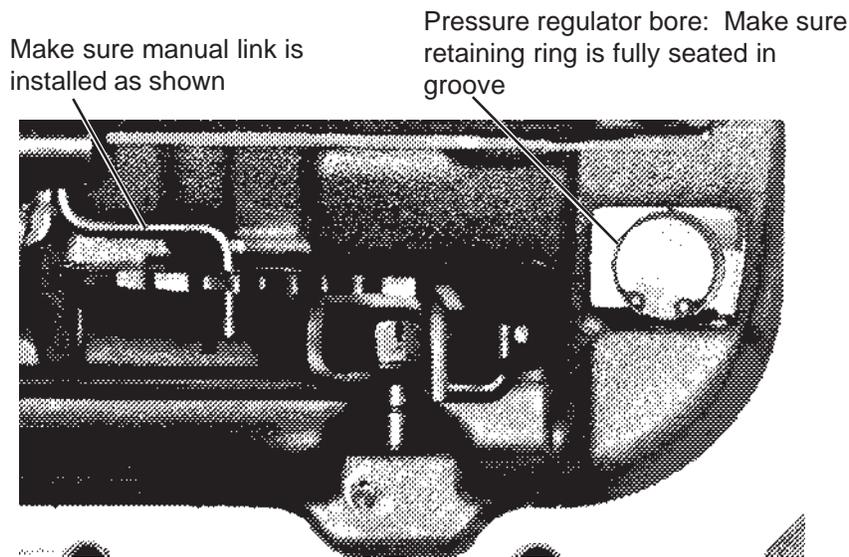
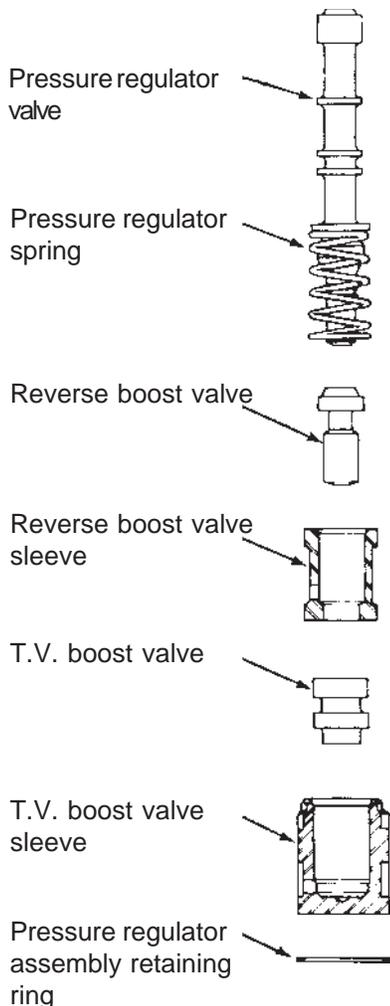

Fig. 3. Pressure Regulator Bore.
Fig. 4. Pressure Regulator Assembly.
**STEP 6. All Performance Levels; Pressure regulator.** Remove the snap ring at the end of the pressure regulator bore in the oil pump assembly (See Fig. 3.) Use a screwdriver to hold the pressure regulator assembly while removing the retaining ring. If the sleeves stick in the bore, lightly tap the sleeve with a small rod and a mallet (piece of 2X4). Remove two sleeves with valves, the pressure regulator spring and valve. Reassemble the pressure regulator assembly using the **BLUE** spring supplied with the kit (See Fig. 4.) Use the new retaining ring from the kit. **Important:** Make sure the retaining ring is firmly seated in its groove when assembled.